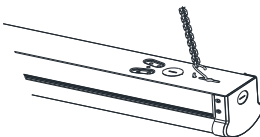

Figure 1
1. Hook one end of the chain on the fixture. (Figure 1)